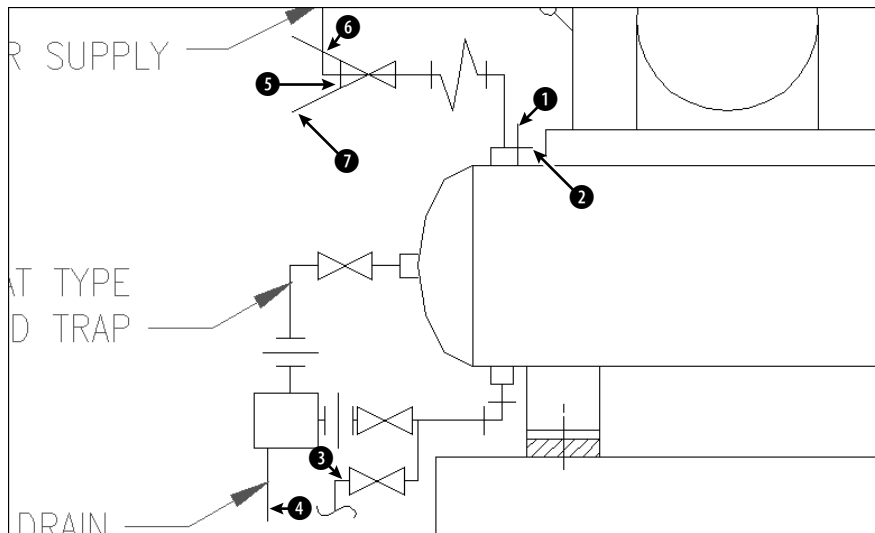

Figure 10-16: A schematic of an air compressor.
2. Save the file as ab10-05.dwg in your AutoCAD Bible folder. It looks like Figure 10-16.
3. Start the TRIM command. At the Select objects or <select all>: prompt, pick lines at ❶ and ❷ in Figure 10-16, and then press Enter.
4. At the Select object to trim or shift-select to extend or [Fence/Crossing/Project/Edge/eRase/Undo]: prompt, again pick lines at ❶ and ❷ in Figure 10-16. Be sure to pick them outside the intersection, as shown. Press Enter to end the command.
5. Choose Trim on the Modify toolbar again. At the Select objects or <select all>: prompt, pick the line at ❸ in Figure 10-16 and press Enter.
7. Pick the line at 4 in Figure 10-16 to trim the line. Press Enter to end the command.